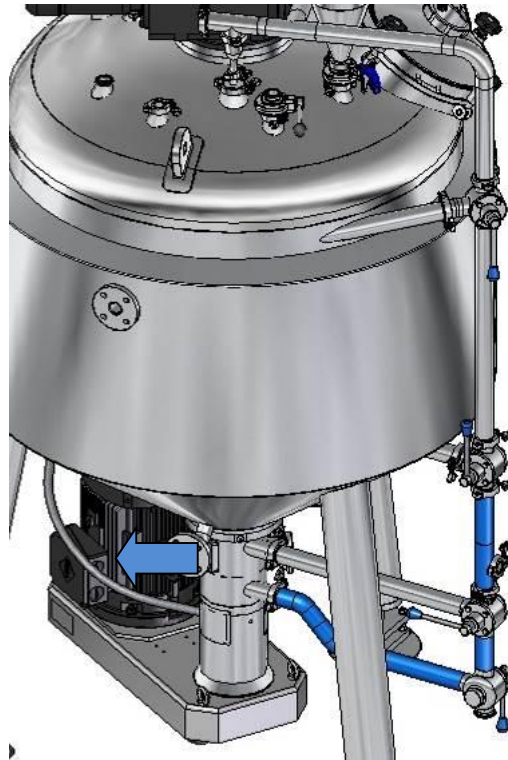

Fig 6.3. Circulation with lower shearing
- Circulation with lower shearing (Fig 6.3)